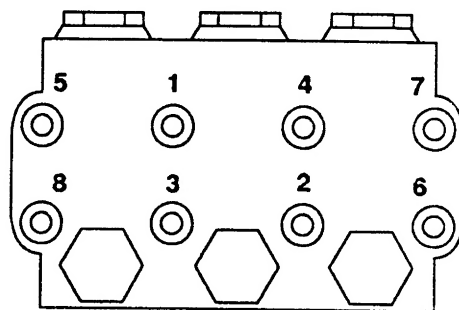

Figure 4
8. Install the capscrews and washers finger-tight. Torque the screws to 21.7 ft-lb (29 Nm) following the tightening pattern (Figure 4). Uneven tightening may cause the manifold to bind or jam.